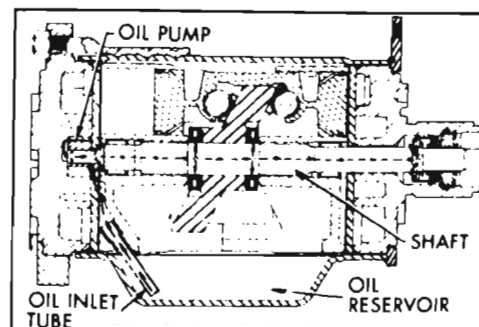

Figure 11-32—Compressor Oil Flow
3. Oil Pump—An internal tooth outer rotor and external tooth inner rotor comprise the oil pump. The pump works on the principle of a rotary type pump. Oil is drawn up from oil reservoir in underside of shell through the oil inlet tube (see Figure 11-32) and circulated through the system via a 3/16 inch diameter oil passage through the shaft center and also four 5/64 inch diameter holes drilled perpendicular to the shaft. The inner rotor is driven by the shaft.